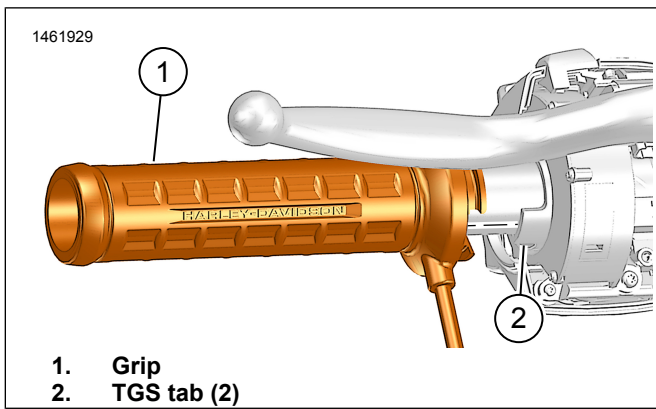

Figure 5. TGS Engagement
1. See Figure 5. Install hand grip.
- a. Align Twist Grip Sensor (TGS) tabs (2) with gaps in grip (1).
- b. Place grip (1) in position.